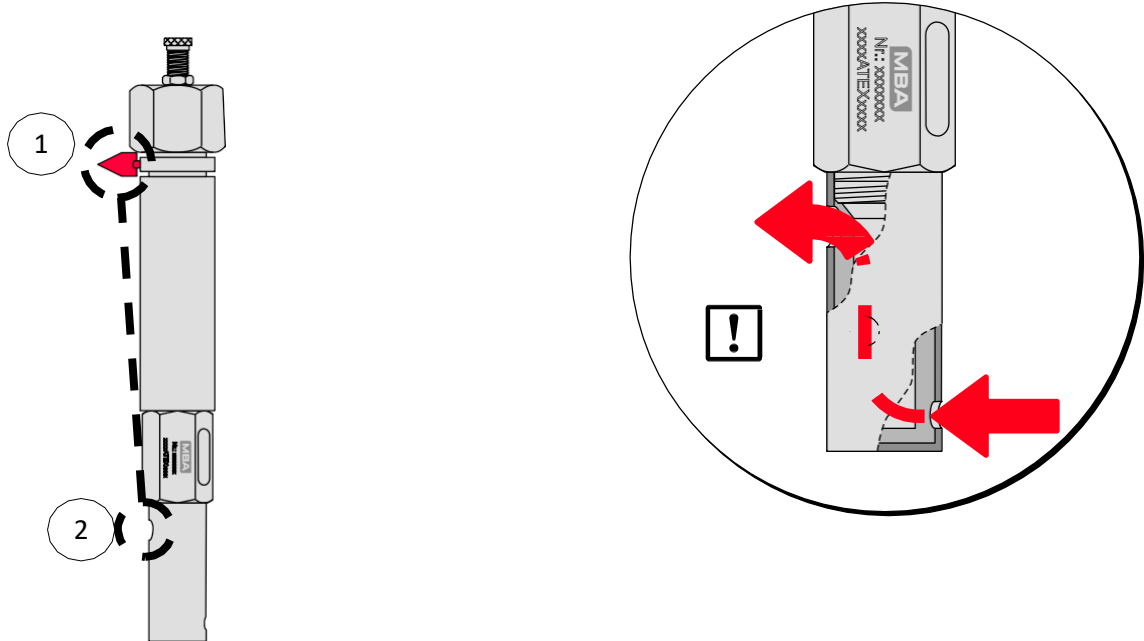

Figure 4
- The lower inlet hole of the probe is facing towards the flow and the upper outlet hole is facing in the flow direction. The red arrow (Figure 4) points in the flow direction and helps with the positioning of the probe.
The inlet opening of the probe must be pointing towards the flow direction. The direction arrow (Figure 4) helps in aligning the probe. Check the position of the direction arrow before installation (see section: 3.3).